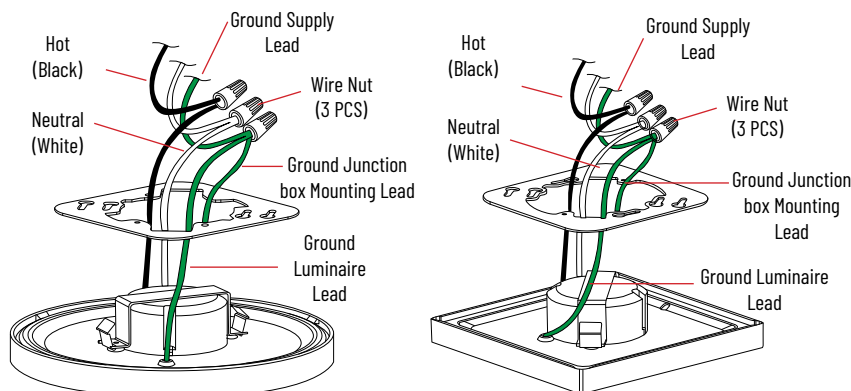

FIGURE 2
- While supporting the luminaire body, make electrical connections: black lead to hot (Black) supply lead; white lead to neutral (White) supply lead. Un-insulated wires are ground wires (ground junction box mounting lead and ground luminaire lead) must be connected to grounding terminal or ground (Green) supply lead inside junction box. Use WIRE NUTS to make connections (Figure 2)